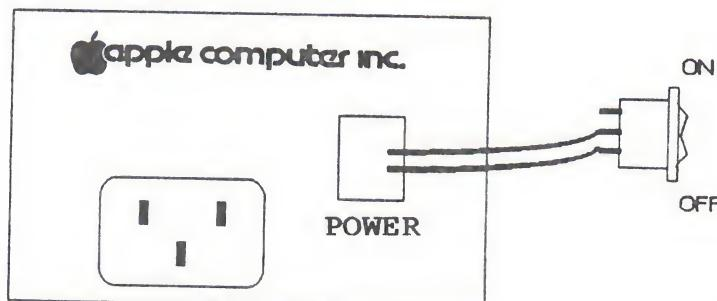

FIGURE 8
- e. Make sure the "ON" side of the switch (the open terminal of the three-terminal switch) is toward the top of the case, and push the switch into its slot in the case until it seats itself firmly. (See Figure 8.)
7. Solder leads to new switch. (See Figure 8 for orientation of 3-pole switch.)